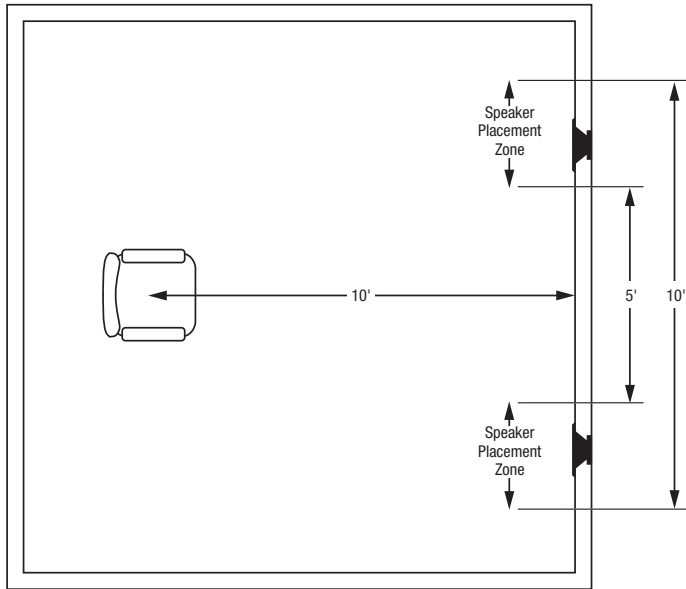

Figure 2. Recommended HDLCR loudspeaker placement for front left and right channels.
- *In home theater applications where there is a center channel, you may choose to space the left and right main speakers farther apart for a “bigger than life” sound with Dolby® encoded movies and TV shows. However, for combined music and movie usage, we recommend using the placement zone for stereo music. Ideally, if the listening position is 10 feet back from the wall, place the speakers between 5 and 10 feet apart, as shown in **Figure 2**.*